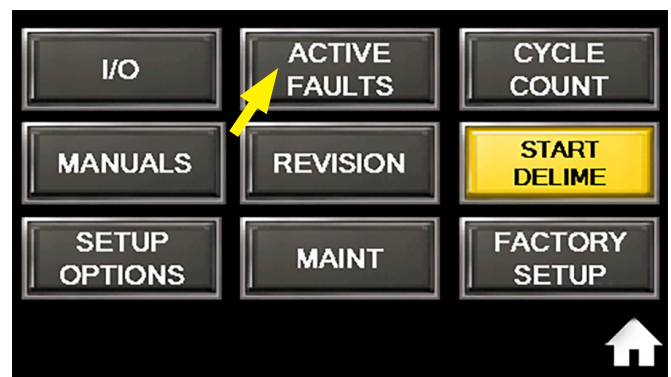

Fig. 55- Active faults button
1. Press the ACTIVE FAULTS button to display operating errors currently present in the machine, (Fig.55).